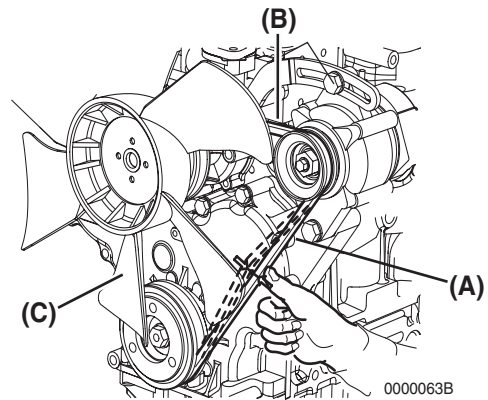

Figure 5-4
There are three positions to check for V-belt tension (**Figure 5-4, (A)**, **(B)** and **(C)**). You can check the tension at whichever position is the most accessible. The proper deflection of a used V-belt at each position is: